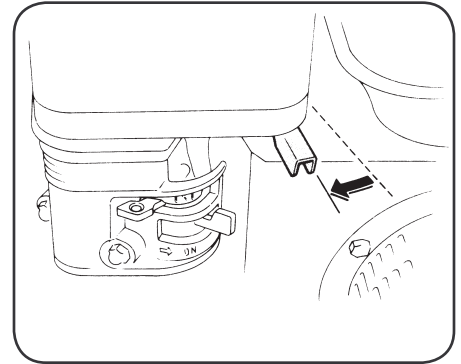

figure 7
3. Move the Throttle Lever slightly to the left. (Fig. 7)